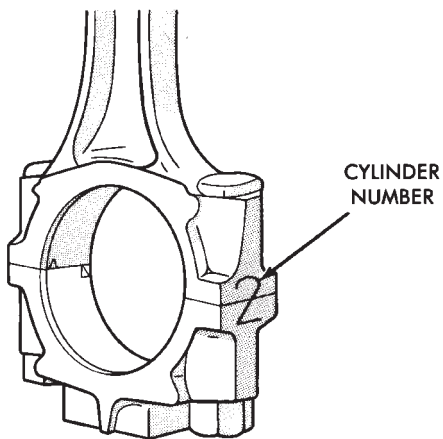

Fig. 88 Mark Matching Parts
(3) Mark connecting rod and cap with cylinder number (Fig. 88).